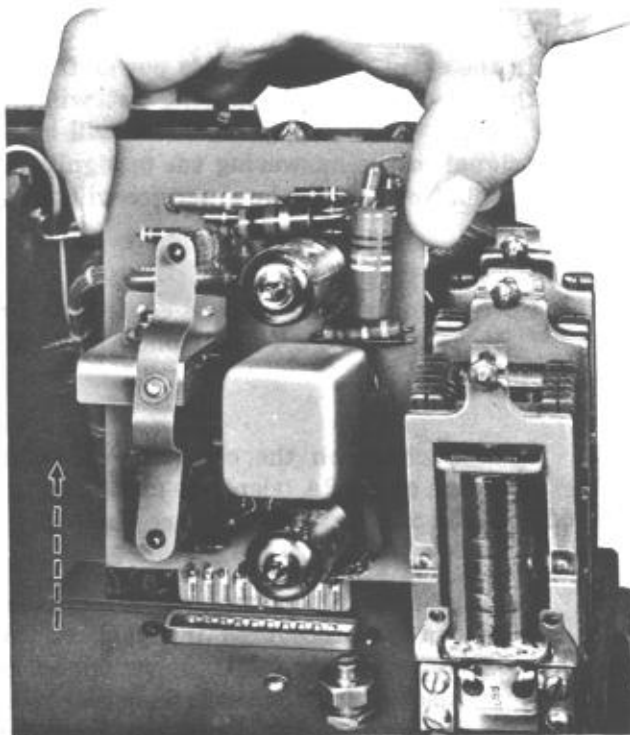

Fig. 4 — Amplifier Removal
3. Grasp the amplifier as shown in Fig. 4 and rock gently from side to side while exerting an upward pull.